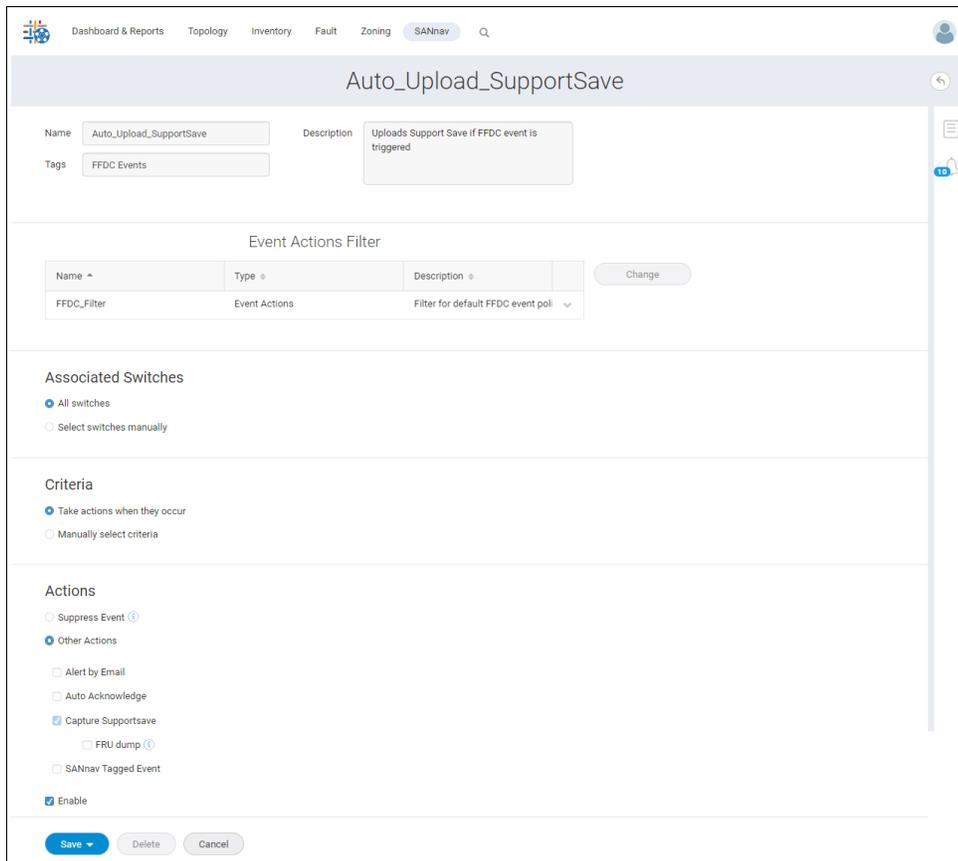

Figure 5-174 Enabling a policy view
- b. Click the drop-down icon next to the default event policy, and then select **View** from the available options. Select **Enable**, and then select **Save** from the **Save** drop-down menu. The default event policy is enabled (Figure 5-174).